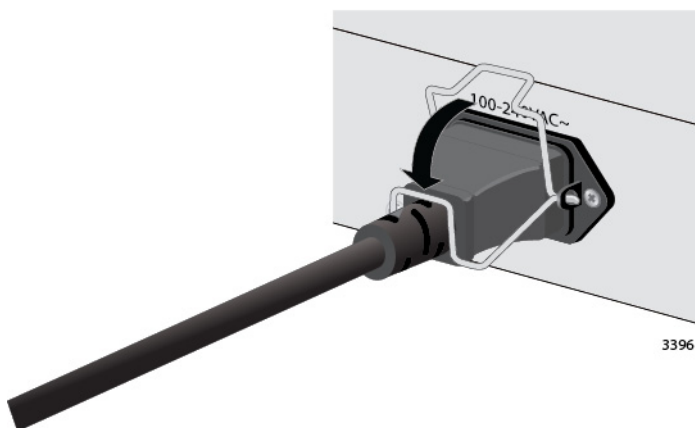

Figure 29. Lowering the Retaining Clip
4. Lower the retaining clip to secure the power cord to the switch. See Figure 29.